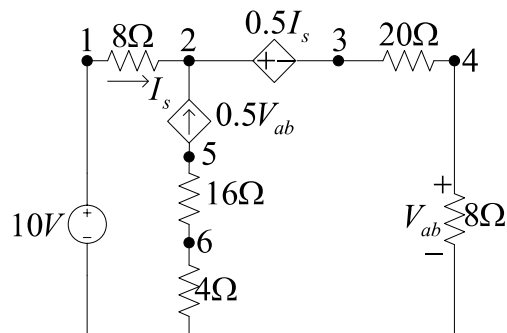

Figure 11. A circuit with VCCS and CCVS.
- (i) Draw the circuit of Figure 11 using PSpice Schematic.
1. Theoretically calculate all the currents and the voltages for the circuit shown in Figure 11.
2. Compare the theoretical solution of the circuit shown in Figure 11 with the solutions obtained from PSpice simulation.